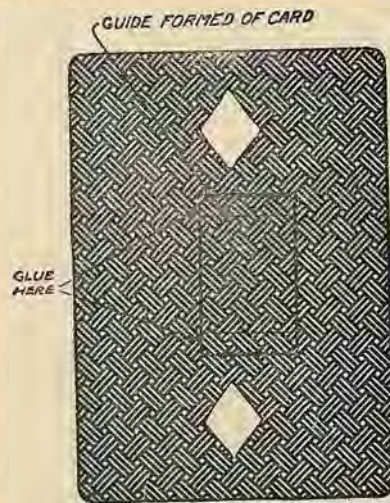
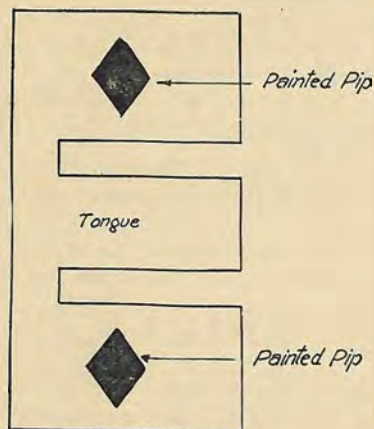

Fig. 65
Fig. 66
Now on the back of this card and in the middle of it a strip of card, $\frac{3}{4}$ of an inch wide and $1\frac{1}{4}$ inches long, is glued by its edges as shown in Fig. 65. Next take another card and cut it out in the shape of an (E) as shown in Fig. 66, and paint the ends of it a bright red to correspond with the color of the pip on the first card. This done, slip the